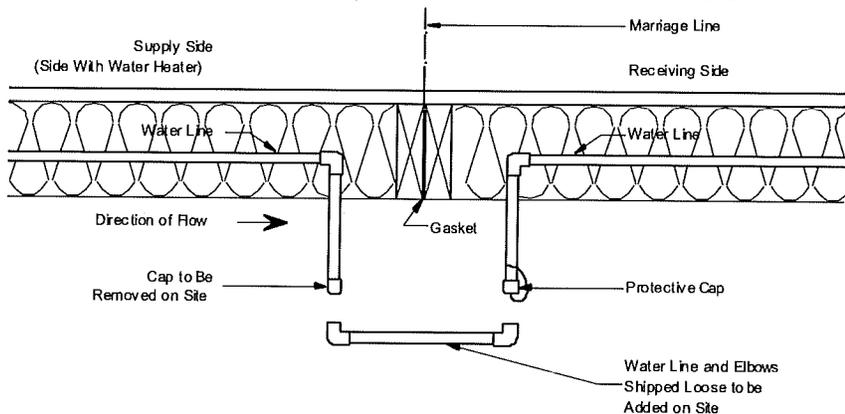

Figure 57. Water line crossover through bottom board
- 2. Connect pipes.** Connect threaded water lines using flexible pipe or a rigid connector line (if provided) and connector fittings (do not use lubricants or sealants). Connect non-threaded water lines, pipe, and elbows with cement provided, inserting pipe to full depth of each fitting (**Figure 57**).